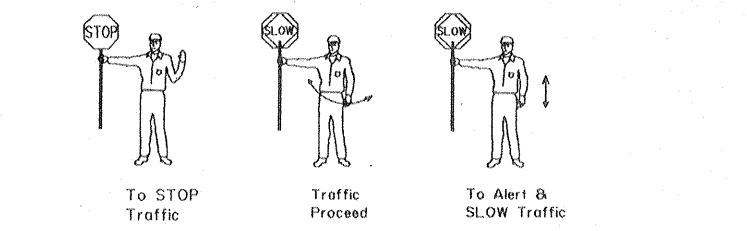

Figure 3-9
- Use the following motions to direct traffic (Figure 3-9):